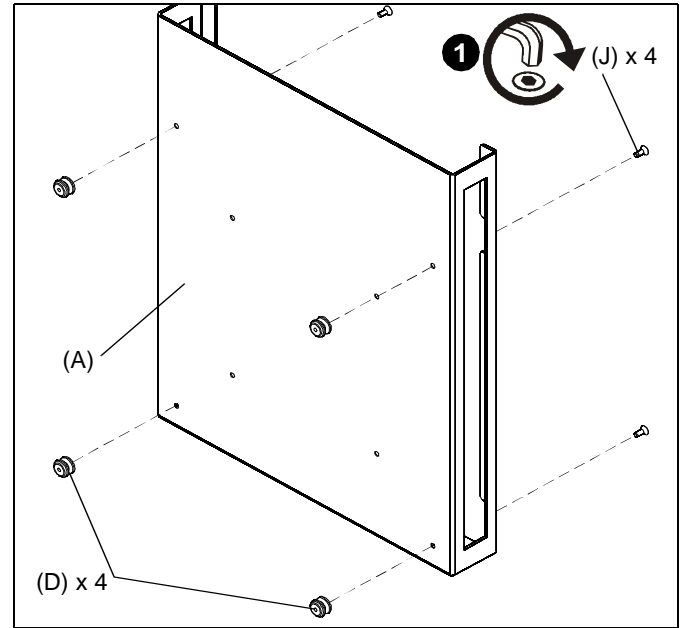

Figure 2
1. Attach four mounting buttons (D) to CPU holder (A) using four 10-24 x 1/2" flat head cap screws (J). (See Figure 2)